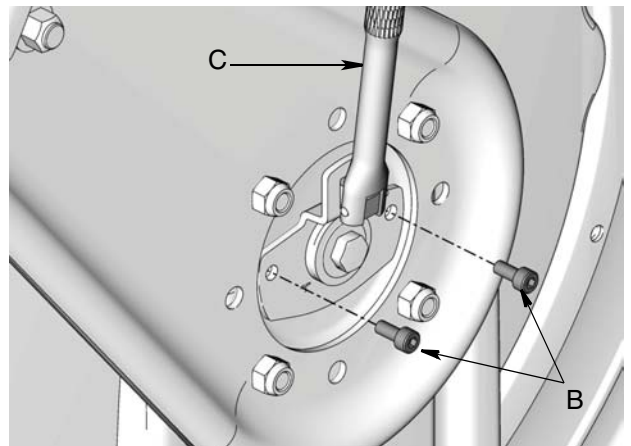

FIG. 17
3. Insert ratchet (C). Then remove screws (B) (FIG. 17).